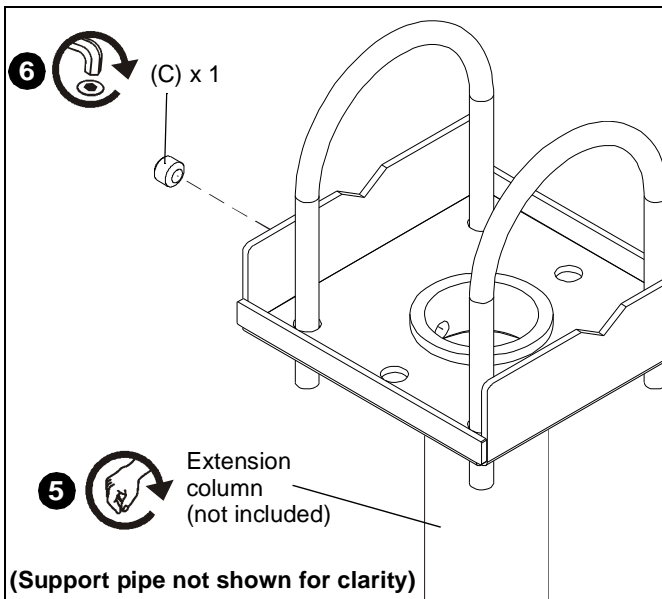

Figure 3
3. Loosely install 3/8" nuts (E) and 3/8" washers (D).
4. Level mount and tighten nuts (E).
5. Install 1-1/2" NPT or NPSM following ANSI/ASME B1.20.1 (Schedule 40, 0.154" minimum thickness aluminum - ASTM B221) threaded extension column (not included) into threaded collar until tight, with a minimum of four threads engaged. (See Figure 3)
6. Using 5/32" hex key (F) and 5/16-18 x 1/4" set screw (C), secure CMA365 to threaded extension column. (See Figure 3)